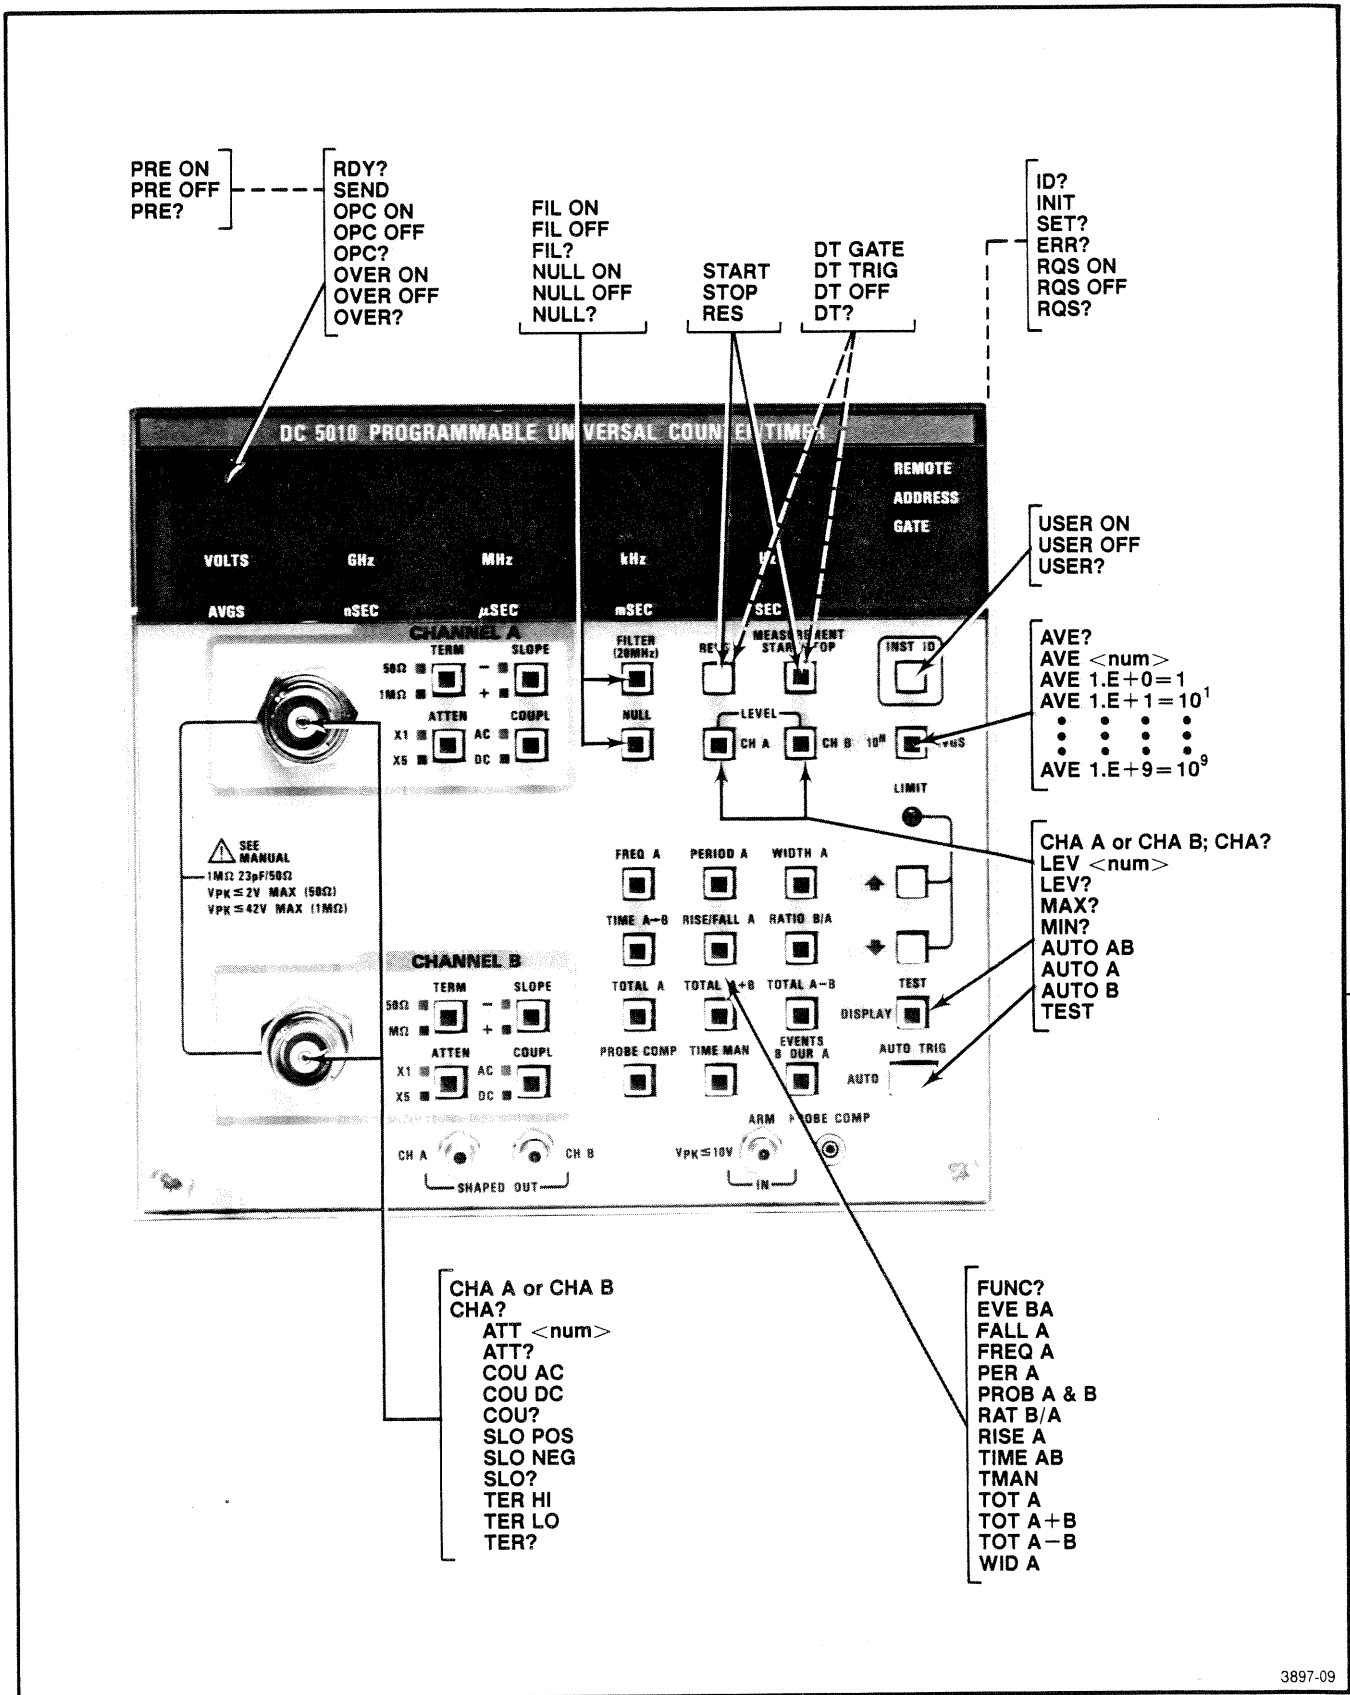

Fig. 2-10. Quick command list.
- A front panel illustration—showing command relationships to front panel operation (see Fig. 2-10).